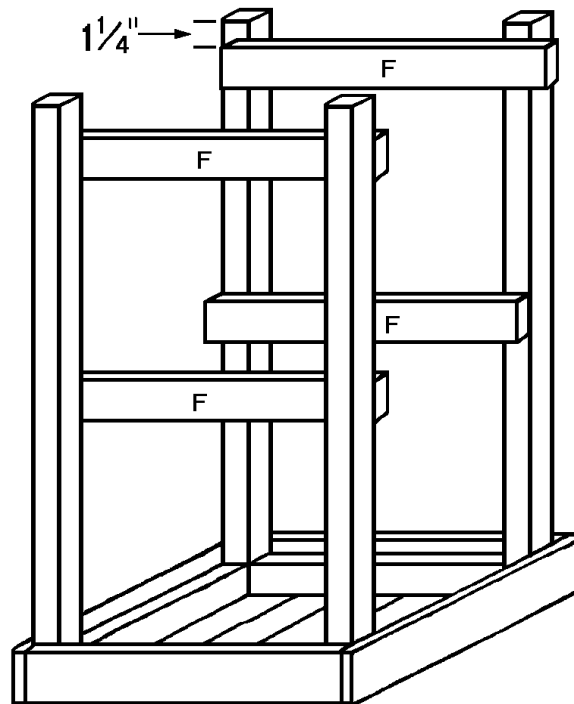

Figure 3
1. Cut four shelf supports (F) from 1 x 2 pine each 20 inches long.
2. With the assembly still upside down, measure 1-1/4" down from the ends of two adjacent legs (any two). Attach one shelf support (F) on the inside, connecting those two legs as shown in *Figure 3*. Use glue and one 2"-long screw on each end of the shelf support (F).
- Next measure 17 inches from the same ends of the same two legs. Glue and screw a second shelf support (F) on the inside of those two legs at the 17" mark (*Figure 3*).
- Repeat Steps 2 and 3 to attach the remaining two shelf supports (F) to the insides of the remaining two legs.